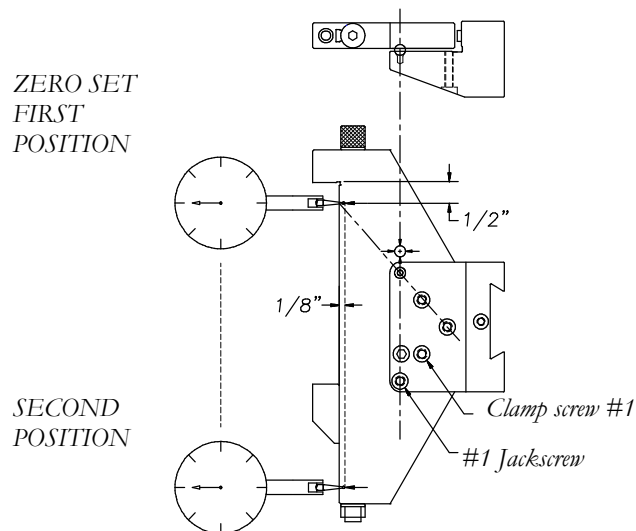

Figure 3
STEP 5. (A). Place the indicator ball on the vise next to the vise bed about 1/2" from the fixed jaw, which is on the 1st-axis hinge line, as shown in Fig. 3. **(B).** Zero the indicator. **(C).** Move the dial indicator toward the other end of the vise bed as shown in Fig. 3.
STEP 6. Turn the jackscrew #1 as shown in Fig. 3 until the indicator moves back to zero. The first-axis is true within .0002 inch.